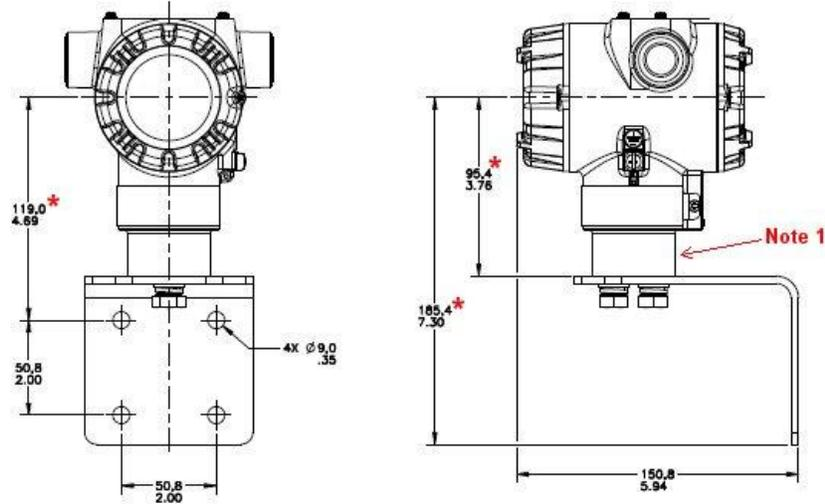

Figure 4 – STT850 with adapter housing - Horizontal Wall Mounting
***Note 1:** Figures 4 and 5. The housing adapter may not be present on all transmitter models. If the housing adapter is not present, subtract 24,5mm (0,96 inches) from the dimension specified.